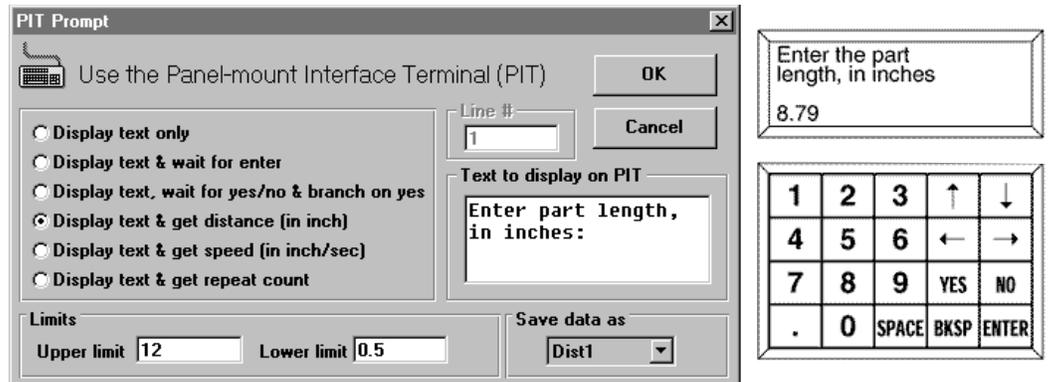

Figure 39 - PROMPT USER FOR MOVE DISTANCE
**TO ASK THE USER FOR A MOVE DISTANCE (SEE FIG. 39):**